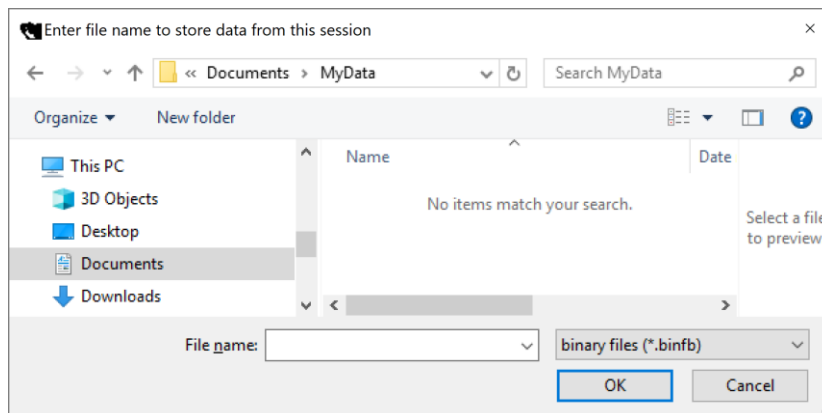

Figure 5. Prompt to enter a filename where data is to be stored during the experiment.
- 5) The program then prompts for a file name as shown in Fig. 5. Animal motion/pressure data will be saved to this file for later processing or checking the signal quality of the recording. It is recommended that this file be given a descriptive name that identifies the nature of the experiment and the date the experiment began. It is also recommended that you do NOT use a period in the file name or type in an extension on the file name textbox, since *PiezoSleep* adds its own extensions that are used in later programs (the *binfb* extension is given to the files with the unprocessed sensor data that are useful for reprocessing or updating when new algorithms are released). The software, *SleepStats*, which analyzes data after the experiment, uses the base name to look for other files from the experiment and opens them automatically. If they have different names and